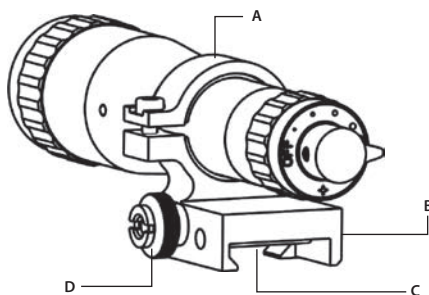

FIGURE 3-13. IR850 ILLUMINATOR
The IR850 (Figure 3-13) is delivered ready-assembled with a dedicated mount, to be installed on the Weaver rail of the CO-MINI. The mount clamp (A) has a spherical hinge that allows the operator to tilt the IR850 as desired.